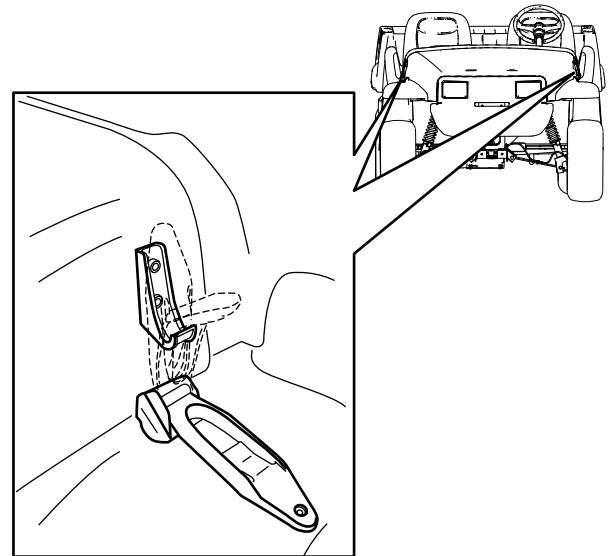

Figure 28
1. Lift up the handle of the rubber latches on each side of the hood (Figure 28).
2. Secure the hood by aligning the rubber latches onto the latch anchors on each side of the hood (Figure 28).